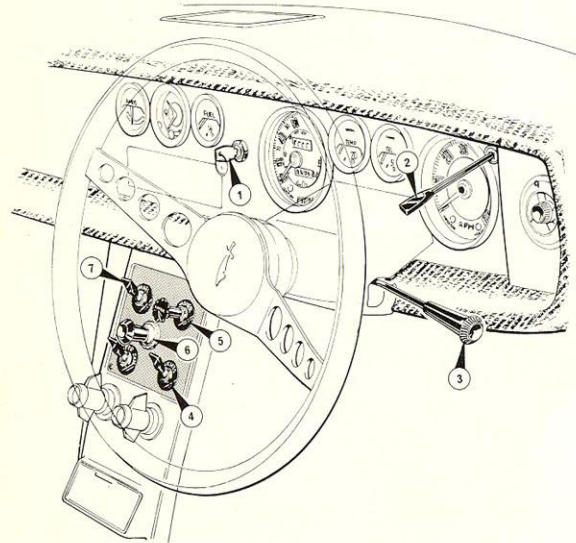

Figure 3 Fascia switches
#### Ignition switch (1) Figure 3
#### Combined direction indicator switch/dipswitch/headlamp flasher and horn-push (3) Figure 3
**Combined side/tail lamp and head lamp switch (4) Figure 3**
**Combined windscreen wiper and washer control (5) Figure 3**
**Cigar lighter (6) Figure 3**
**Panel lamps (7) Figure 3**